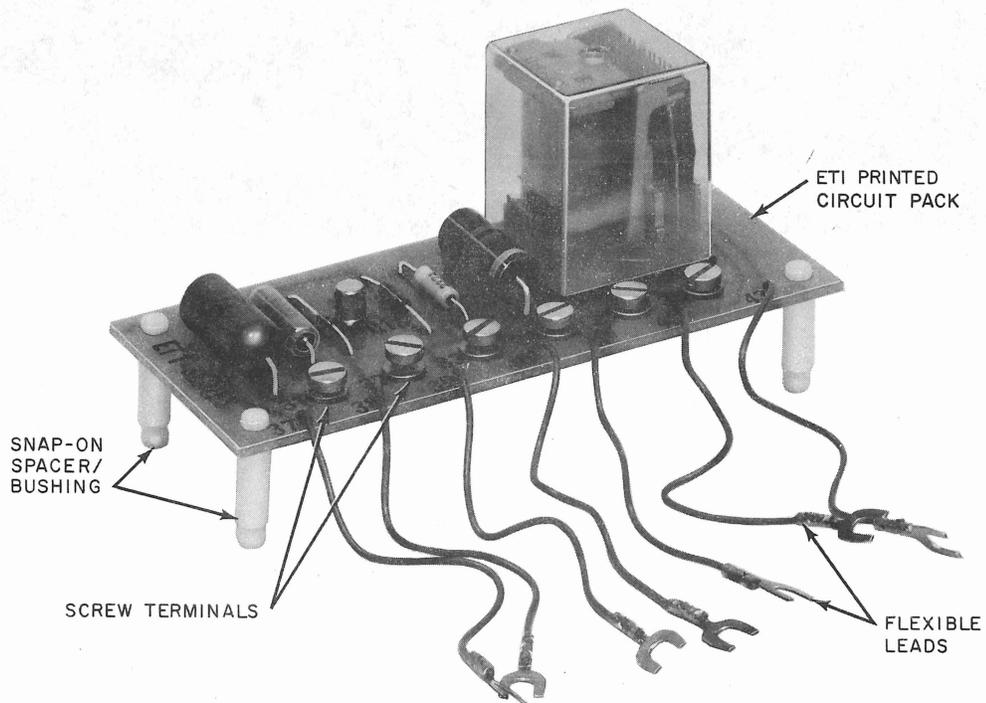

Fig. 14—ET1 Circuit Pack
3.04 Installation of the DAS 830B-L1A, ET1 circuit pack (Fig. 14), and EC 833 break detection circuit is made at the service center (Fig. 15). The wiring for ET1 circuit pack arrangement with DAS 830B (Fig. 16) includes a send space timing circuit and a message-waiting lamp circuit.